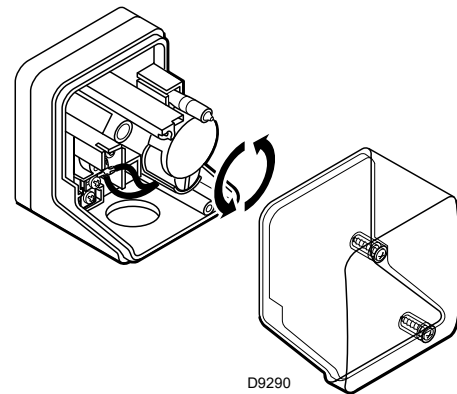

Fig. 39
- Adjust the minimum gas pressure (Fig. 39, page 29) switch to the start of the scale.
Adjust the minimum gas pressure switch (Fig. 39) after having adjusted the burner, the gas valves and the gas train stabiliser. With the burner operating at maximum output: